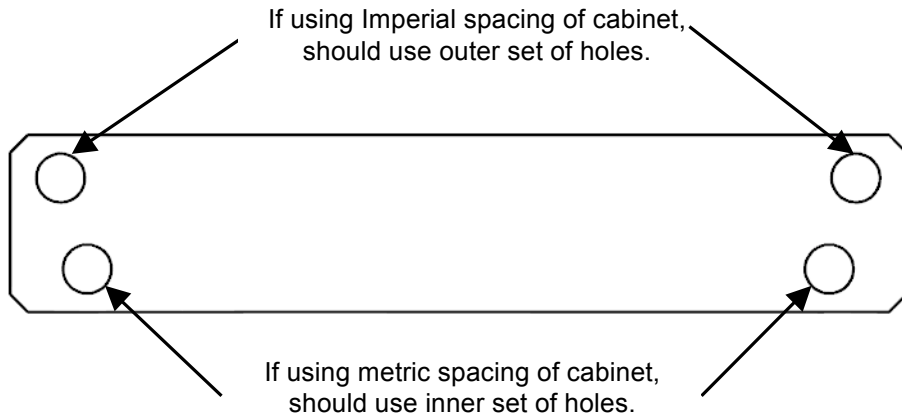

Fig. 1
2. Determine if using Imperial or metric spacing of cabinets. Cabinets centered on inches use outer set of holes. Metric spacing uses inside holes (Fig. 1).
3. Place bracket flat against frame top. For centering on inches, outer set of holes must be used. For metric spacing, rotate the bracket 180 degrees and inner set of holes must be used (Fig. 1 and Fig 3).